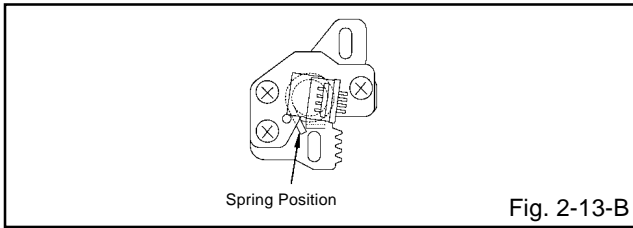

Fig. 2-13-B
2-13: A/C HEAD (Refer to Fig. 2-13-A)
2. When you install the A/C Head Spring, install as shown in Fig. 2-13-B. (Refer to Fig. 2-13-B)
3. When you install the A/C Head, tighten the screw (1) first, then tighten the screw (2), finally tighten the screw (3).